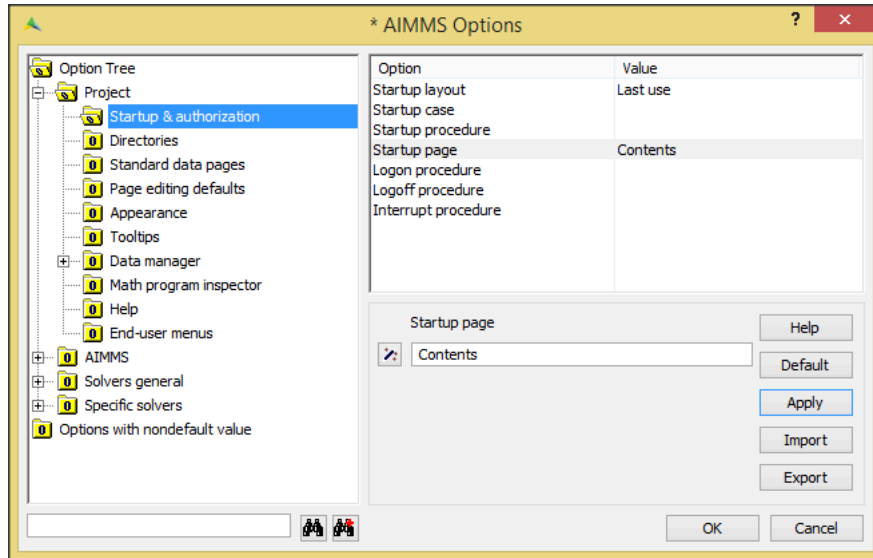

Figure 10.18: The AIMMS Options dialog box
- ▶ set the 'Startup page' as shown in Figure 10.18, and